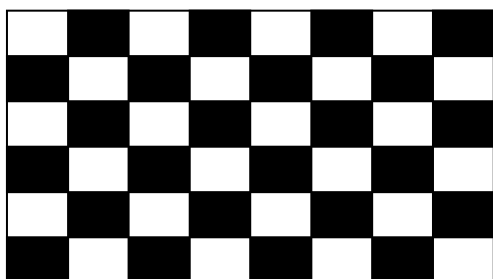

**FIG. 4 Viewing Angle**
5. Viewing angle is the angle at which the contrast ratio is greater than 10. The angles are determined for the horizontal or x axis and the vertical or y axis with respect to the z axis which is normal to the LCD module surface. For more information, see the FIG. 4.